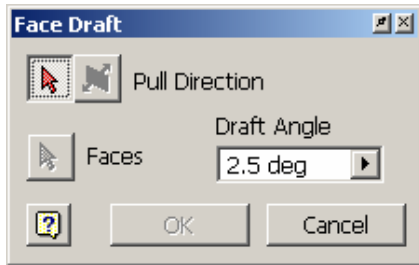

Figure 39
- The Pull direction button should be selected. (Figure 39)